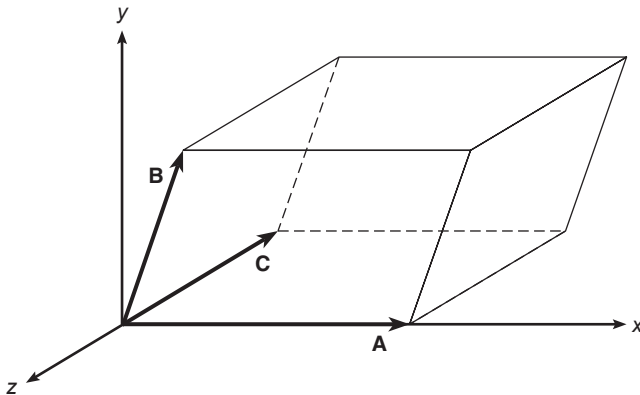

Figure P34
34. The volume of a parallelepiped can be computed from $|\mathbf{A} \cdot (\mathbf{B} \times \mathbf{C})|$, where \mathbf{A} , \mathbf{B} , and \mathbf{C} define three sides of the parallelepiped (see Figure P34). Compute the volume of a parallelepiped defined by $\mathbf{A} = 5\mathbf{i}$, $\mathbf{B} = 2\mathbf{i} + 4\mathbf{j}$, and $\mathbf{C} = 3\mathbf{i} - 2\mathbf{k}$.